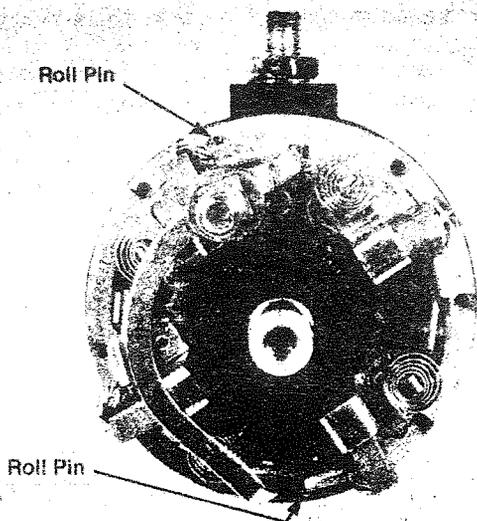

Figure 27
- Place brush support plate flush on field ring so roll pins pass through locating holes. Figure 27.